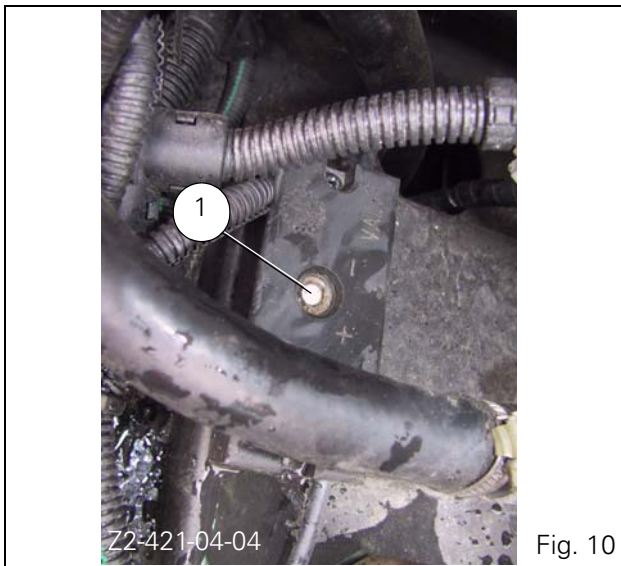

Fig. 10
- Power take-off control (Fig. 10):